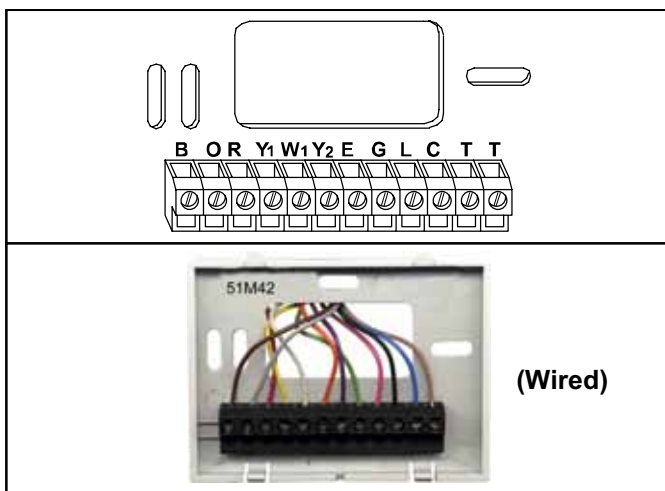

Figure 3. L3732H Terminal Strip
- L3732H - See table 3 and figure 3.